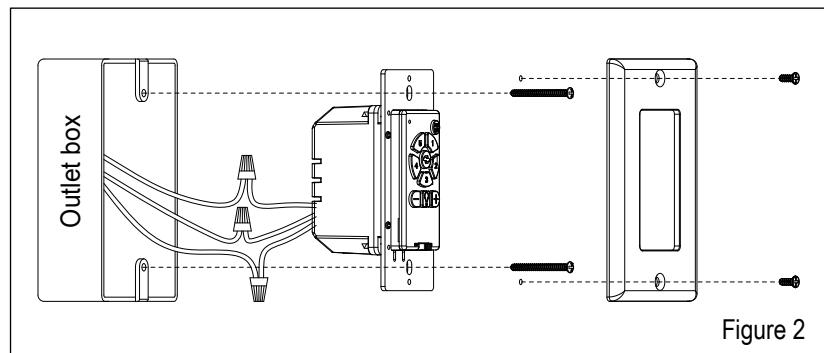

Figure 2
- Attach wall plate to wall transmitter unit with screws provided as shown in Fig.2.